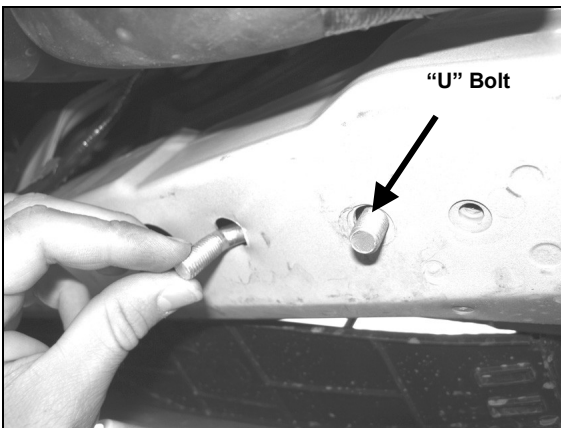

Figure 3
- Locate the two non-threaded factory holes on the passenger side of the cross member and insert (1) 10mm "U" Bolt through factory hole as shown in **Figure 3**.